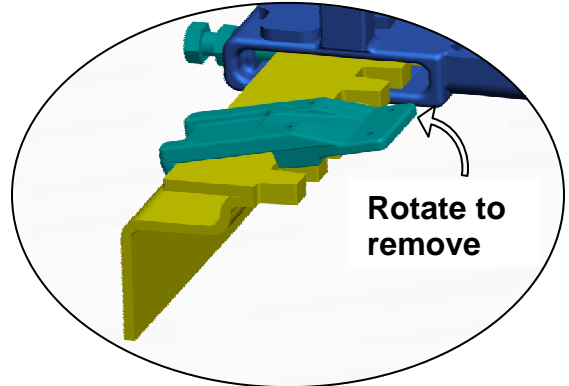

FIGURE 3
- b) Remove the rear stop by rotating as shown in figure 3.